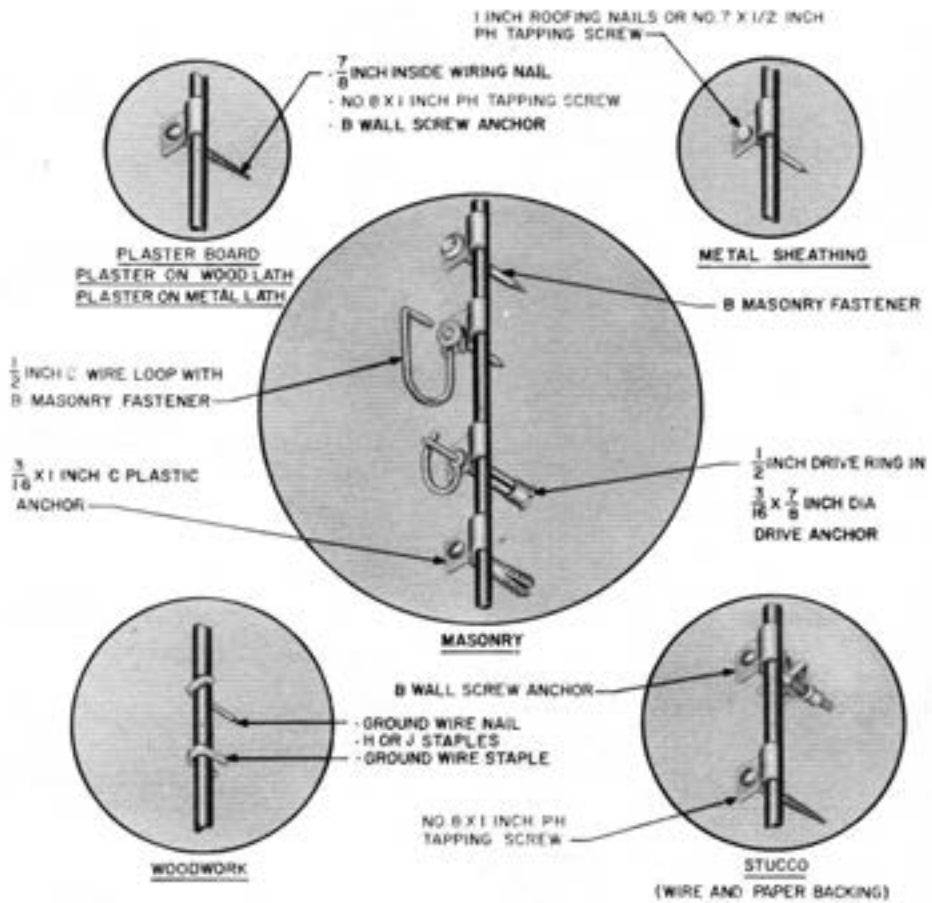

Fig. 13—Fasteners for Ground Wire
7. ATTACHING AND FASTENING GROUND WIRE (Fig. 13)